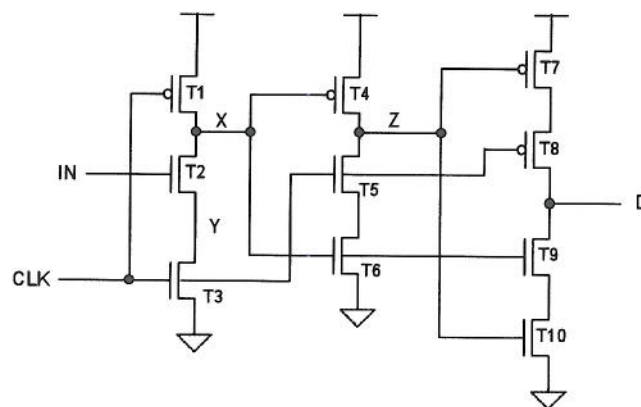
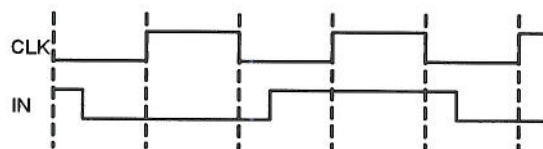

Figure 6.1
Figure 6.2
6. a) Figure 6.1 shows the transistor-level schematic diagram of a latch circuit. Given that the timing diagram for the input signals CLK and IN is as shown in Figure 6.2, draw the timing diagram for the signals at X, Y, Z and D. Label your timing diagram indicating the various states of the signal nodes as:
*driven low (DL)* - a path to ground exists,
*driven high (DH)* - a path to VDD exists,
*charged low (CL)* - high impedance with no stored charge at ground, and
*charged high (CH)* - high impedance with stored charge at VDD.